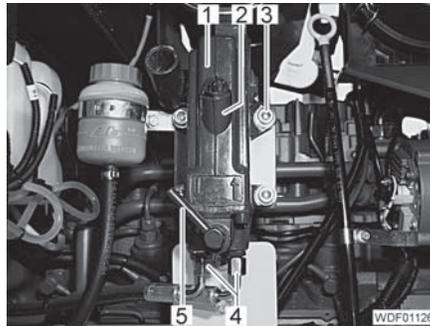

Fig. 410 Hand pump attachment
- To depressurize the cab lift hydraulic, move the switching lever (Fig. 410,5) up and down a number of times.
- Unscrew and close off the 2 hydraulic lines (Fig. 410,4).
- Unscrew the 4 screws (Fig. 410,3).
- Remove the hand pump (Fig. 410,1).
- Position the hand pump (Fig. 410,1).
- Screw in 4 screws (Fig. 410,3) with washers and tighten.
- Screw the 2 hydraulic lines (Fig. 410,4) onto the connections of the hand pump and tighten.
- Unscrew the plug (Fig. 410,2) from the filler neck.
- Screw in the plug (Fig. 410,2) into the filler neck and tighten hand-tight.